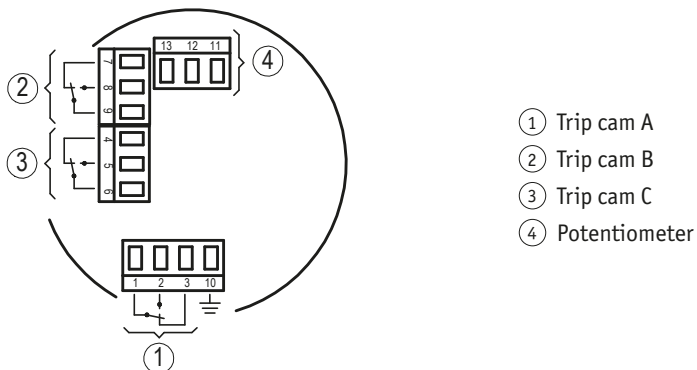
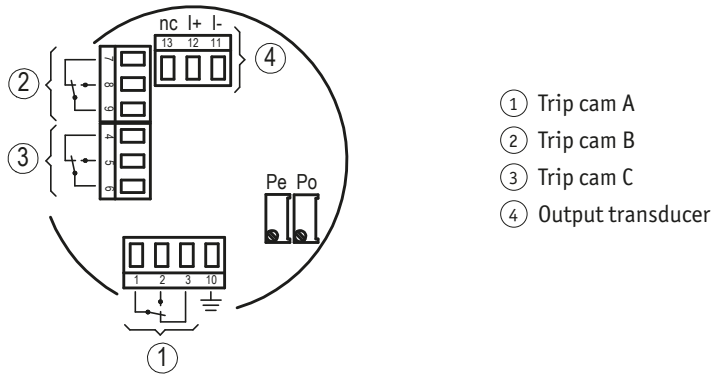

Fig. 5: Pin connection without Instrument transformer
Fig. 7: Pin connection with Instrument transformer
- Connect strands to the clip terminals (Fig. 5 and Fig. 7).
The instrument transformer is preset to standard values 4 mA for potentiometer's start position (Po) and 20 mA for end position (Pe). Via two trim potentiometer's Po and Pe (see Fig. 7) these values can be adjusted to the application's actual start and end position.